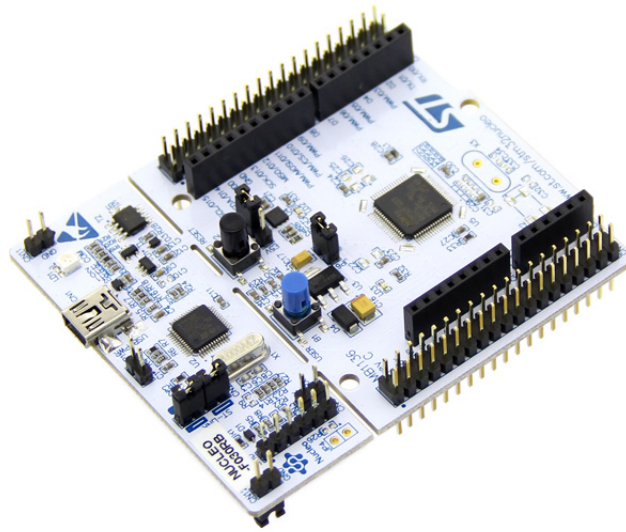

Figure 1: STM32 Nucleo board [2].
- Device shown in Figure 1.
The device shown in Figure 1 - NUCLEO-F030R8 [5], was the main platform for the project. The device was equipped with a STM32F030R8 [6] microcontroller unit (MCU), which was designed and made to be suitable for a wide range of applications. MCU includes a set of peripherals through which it communicates with other devices such as the sensor shown in Figure 2. To create a communication pipeline, these units must be connected to each other via jumper wires. Wires provide a connection between the pins of units and so the pins have to be configured correctly.